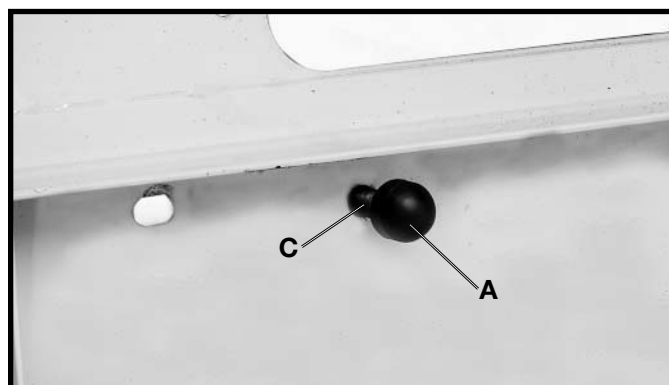

Fig. 16A
27. Place the damping cap (A) Fig. 16A onto the threaded end of the screw (C).